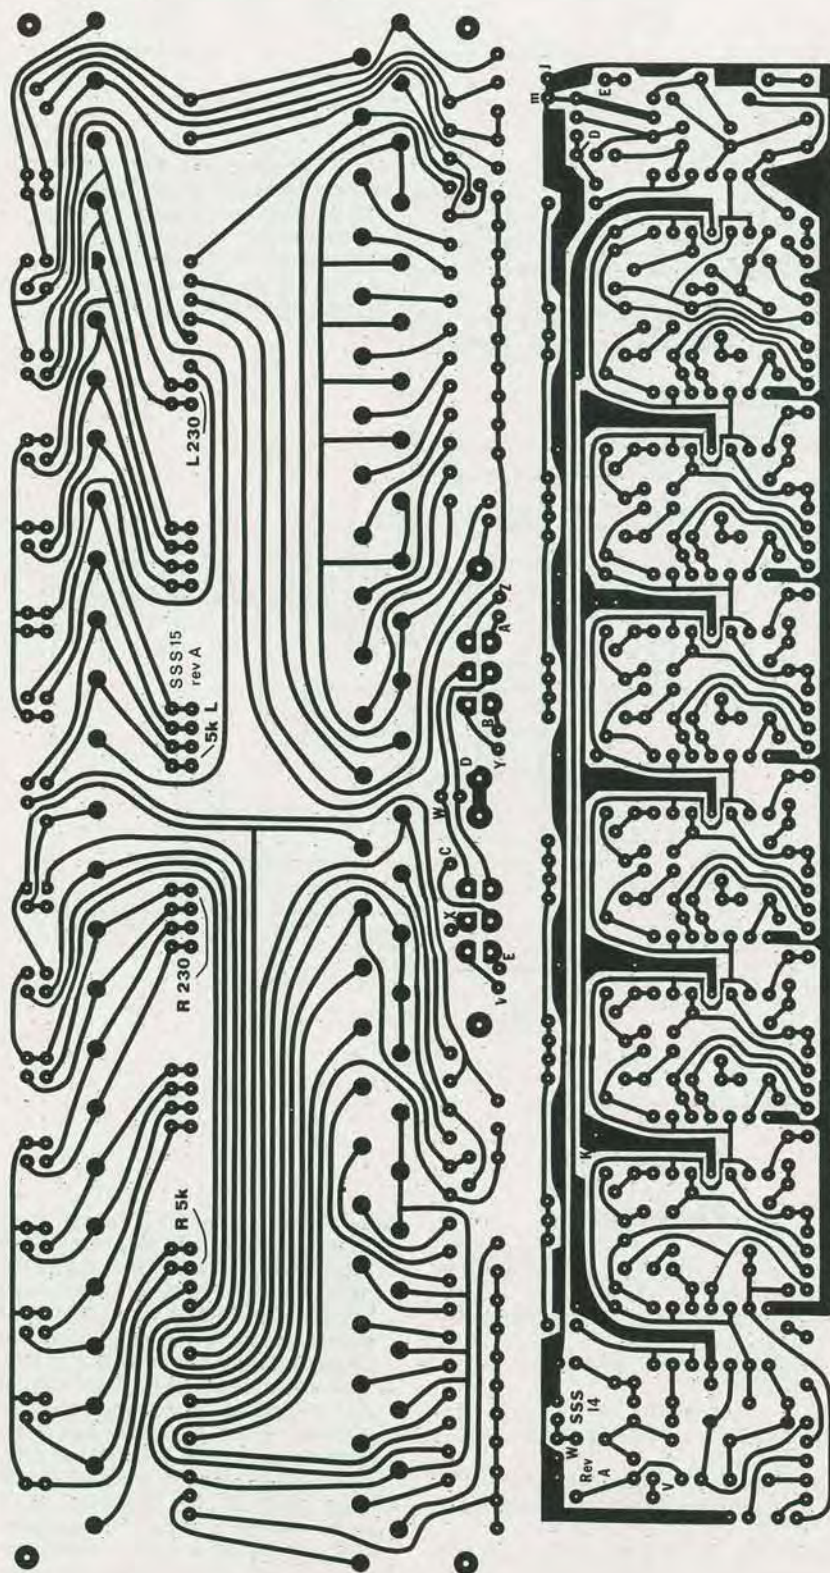
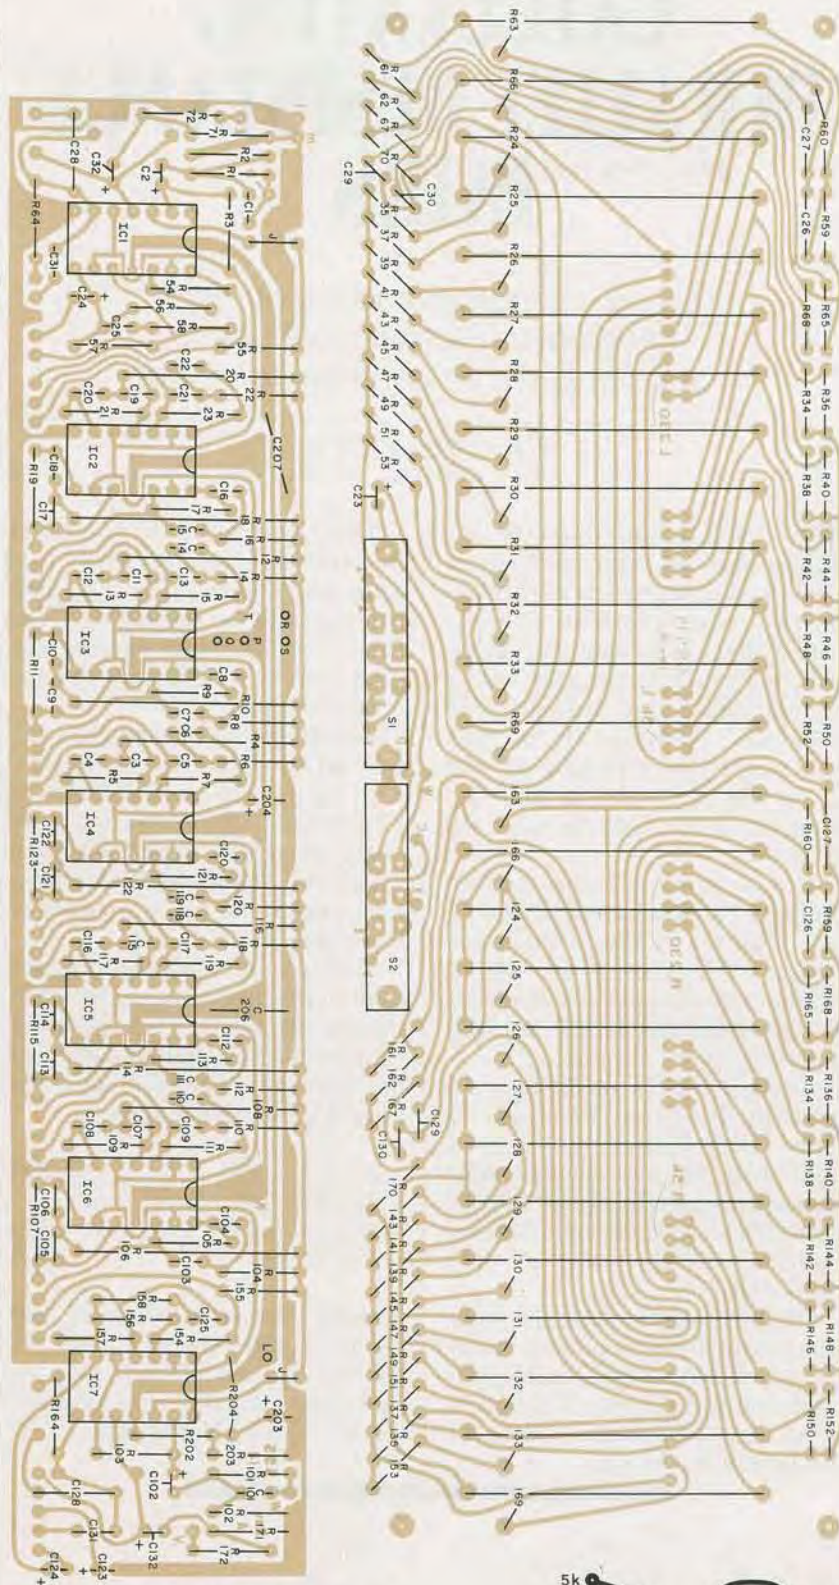

Fig. 3. Foil patterns for the Equalizer pc boards
Fig. 4. Component layouts for the pc boards.
**Construction.** The Optimized Equalizer, except for the power supply input connectors and options, is built on two pc boards. The foil patterns for these boards are shown in Fig.3, and the parts placement diagrams are given in Fig. 4. By placing all the controls on one board (the vertical board) and most of the remainder of the unit on the horizontal board, front panel space requirements are minimized. This makes for an efficient, compact assembly. The boards are connected